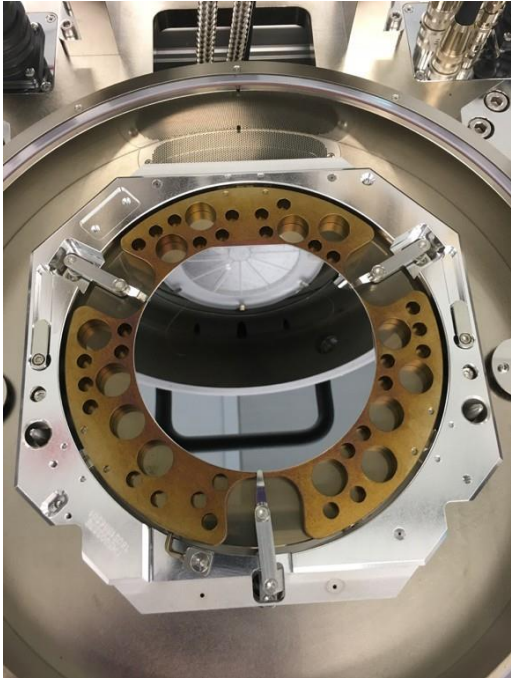

Figure 3: Correct alignment of glass wafer on top of Si wafer and spacers
5. Place and align glass wafer on top of Si wafer/spacers. See Figure 3 for correct alignment example.